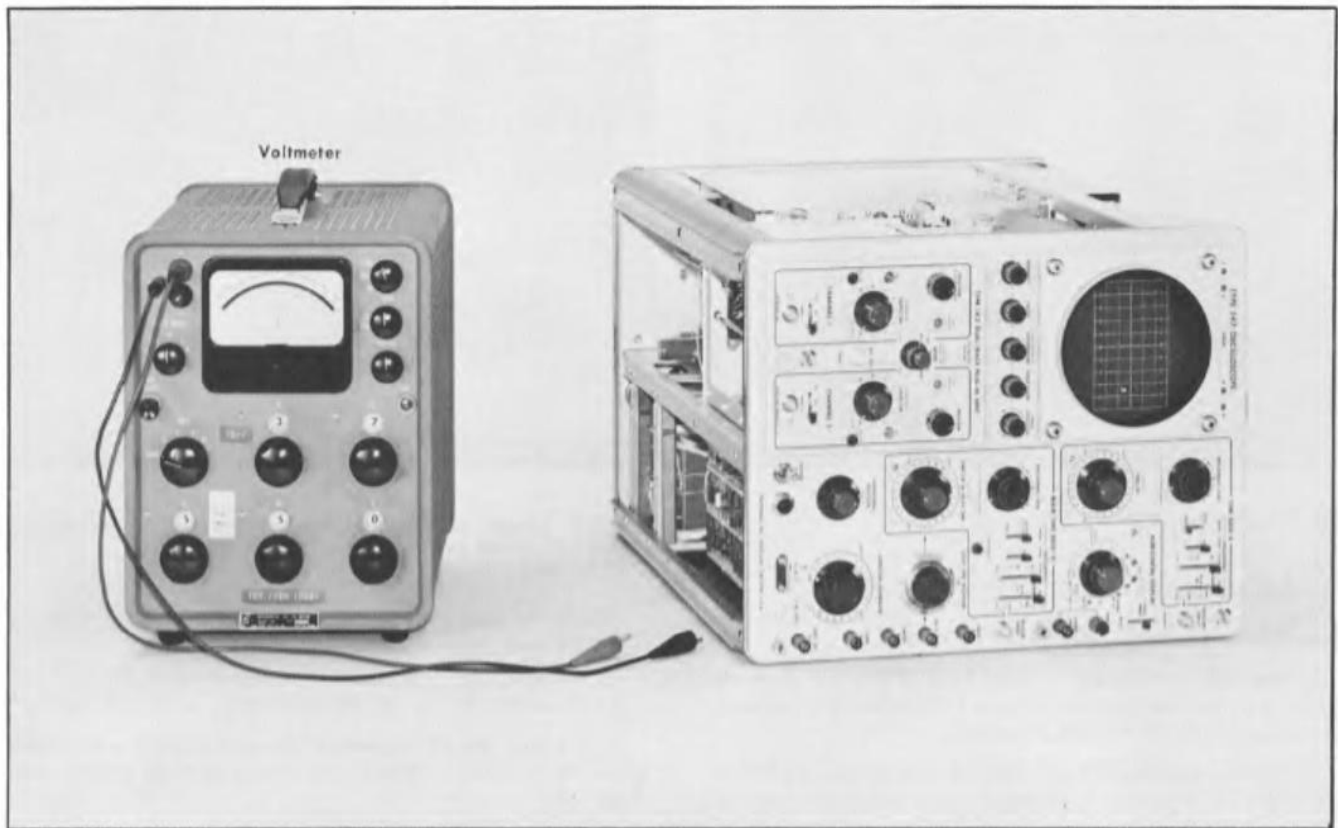

Fig. 7-3. Initial equipment setup for steps 1 through 4.
1. Adjust Variable Attenuator Balance ①
- a. Equipment setup is shown in Fig. 7-3.